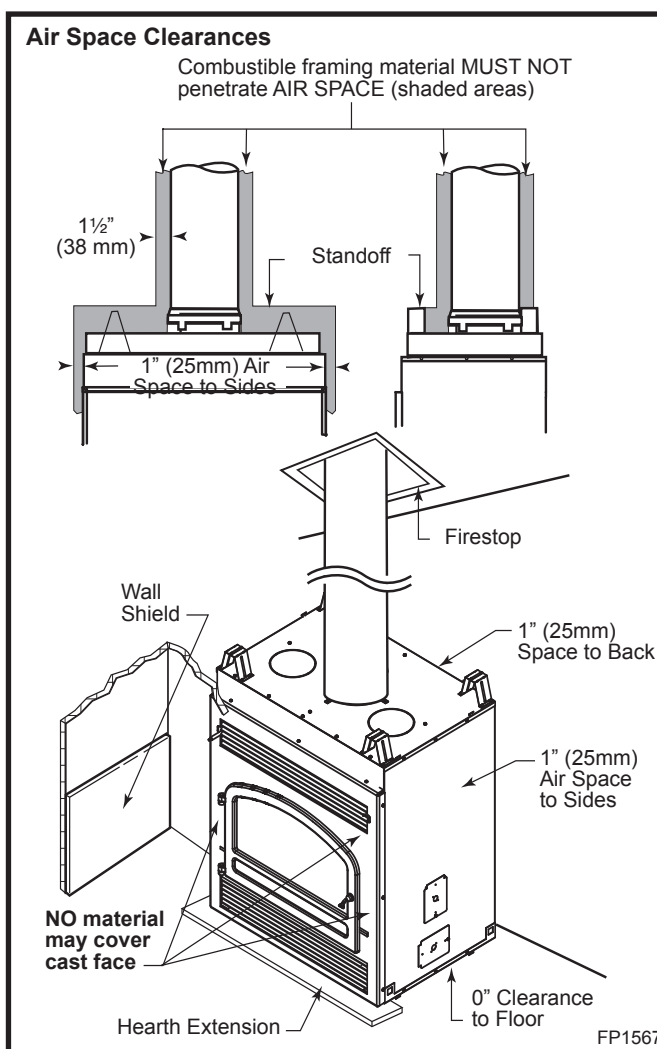
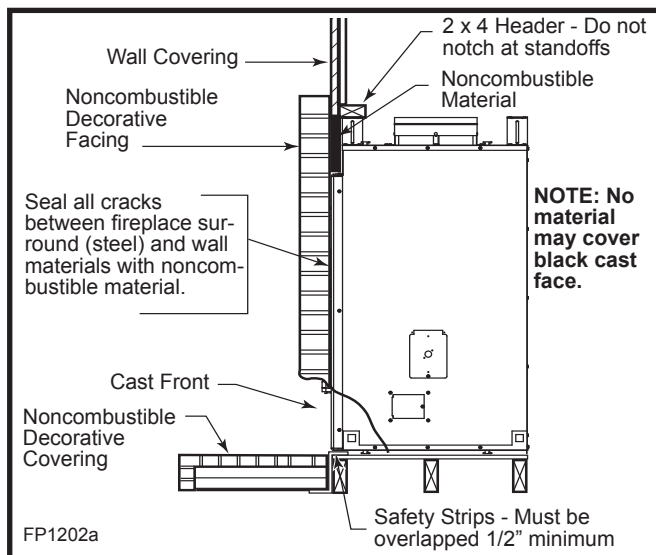

Fig. 19 Minimum clearances to combustibles.
Fig. 24 Sealing gaps.
CAUTION: All joints between the finished wall and the fireplace surround (steel front) must be sealed with noncombustible material to prevent cold air leakage into the room. (Fig. 19)
Adjacent combustible side walls that are within minimum dimensions shown in Figure 24 of the fireplace opening must be protected with CFM Corporation Wall Shield Model SP40 or a specifically built wall shield described in Figure 19.
The special wall shield design described in Figure 19 is an alternate method of adding protection to side walls and can be used in place of the SP40 with the same wall clearances specified for the SP40. Rt must = 1.85 minimum.
Secure the hearth extension to the floor to prevent shifting, using trim molding or other similar means at three (3) outer edges. Seal crack between the fireplace hearth and hearth extension with a noncombustible material. (Figs. 24 and 25)
WARNING: Hearth extension must be installed in accordance with Figure 24. Top of hearth extension must be level with bottom of fireplace.